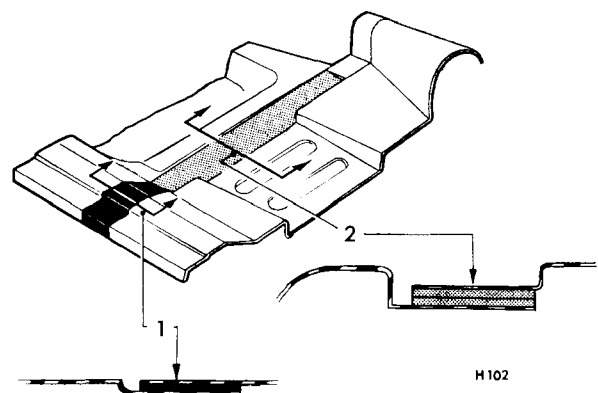

Fig. 26. Location of floor panel sealing strips
Remove the old sealing compound from the rear and centre section joint faces and apply new lengths of 'Everseal' strip to the outer joint face of the centre section (1) Fig. 26, and Rubberised canvas between the centre and rear section joints (2) Fig. 26.